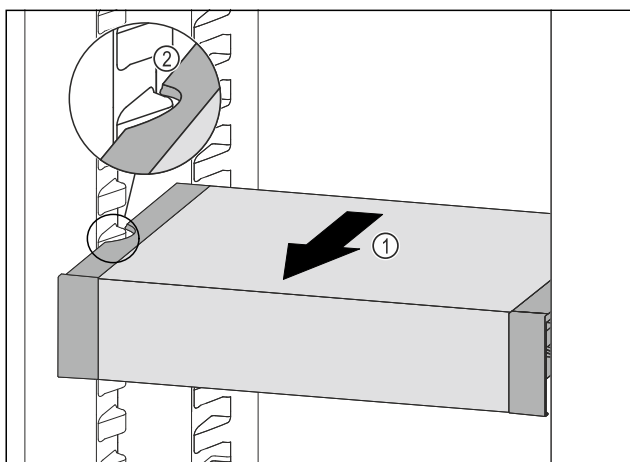

Fig. 123
- Pull VarioSafe forward Fig. 123 (1) until the recesses in the side of the VarioSafe are at the level of the support rib in the refrigerator compartment. Fig. 123 (2)